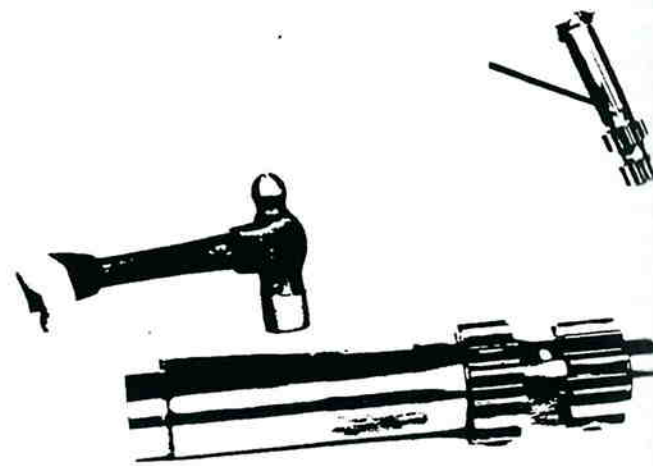

Figure 13-89. Installing Long Key.
3. Install the long key in keyway in countershaft (figure 13-89).